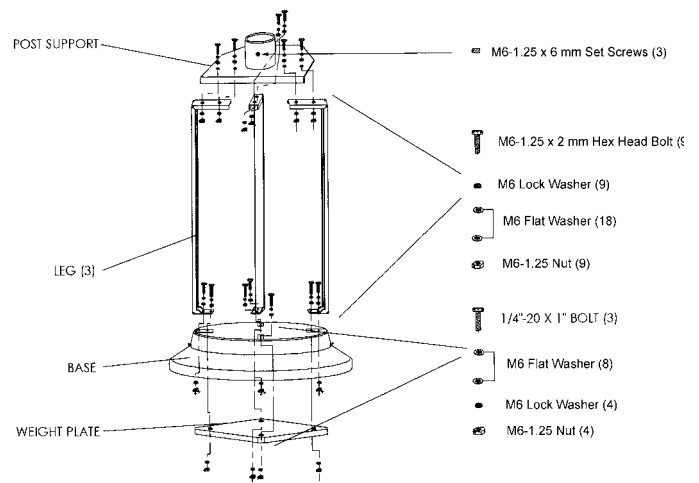

Figure 1: Step 1, 2 & 3
Place the post support on the base support legs (see figure 1). Tighten the post support and the base support legs together using six (6) M6-1.25 x 20mm hex head bolts, six (6) M6 lock washers, twelve (12) M6 flat washers, and six (6) M6-1.25 nuts.